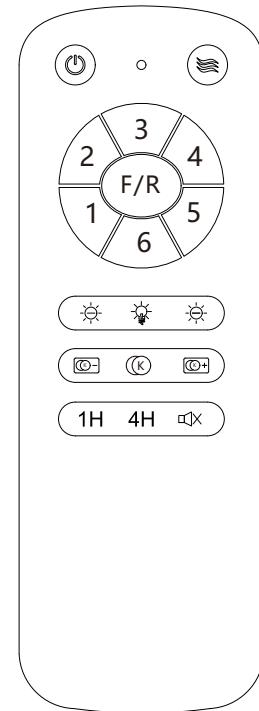

Figure 9
- A. Press the "⏻" button to turn off the fan (*this button is only used to turn off the fan, and it will not turn off the LED lamp Fig.9)